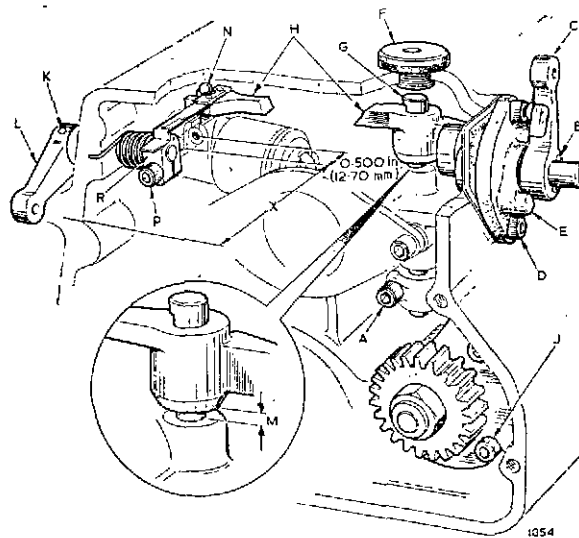

Fig. 10
43. To remove governor (Fig. 10)
- (b) Remove the screws (J) securing the governor housing cover and withdraw the governor assembly.
44. To remove governor linkage (Fig. 10)
- (c) Loosen the governor bracket screw (A)
- (d) Remove the dowel (B) securing the governor stop lever and remove the lever (C).
- (e) Remove the screws (D) securing the governor stop cover and withdraw the cover (E).
- (f) Remove the governor plug (F) and withdraw the operating lever shaft (G).
- (g) Withdraw the operating lever assembly (H).
- (h) On variable speed engines remove the dowel (K) securing the overload stop lever and remove the lever (L). Do not loosen the screw clamping the overload cam to the spindle. The cam is set by *Petters Ltd* and should not be disturbed unless a new fuel pump is fitted (see instructions given under 'To fit new fuel injection pump'). Remove the overload stop spindle and cam.
46. To replace governor and linkage (Fig. 10)
- (d) Check the setting (M) between the operating shaft bush and the operating lever with a feeler gauge. This should be 0.010in (0.25mm). Loosen the governor bracket screws and adjust the governor operating lever until the correct setting is obtained.